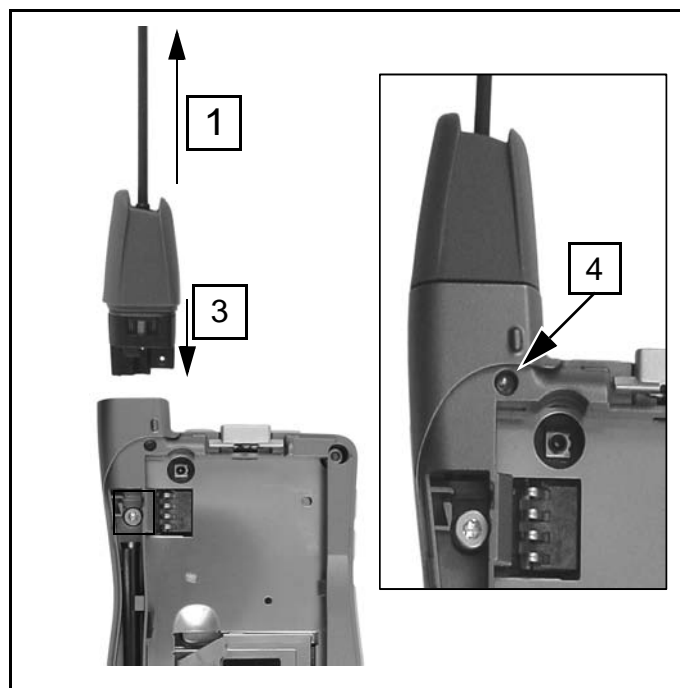

Figure 7-10.
1. Fully extend antenna mast. (see Figure 7-10)